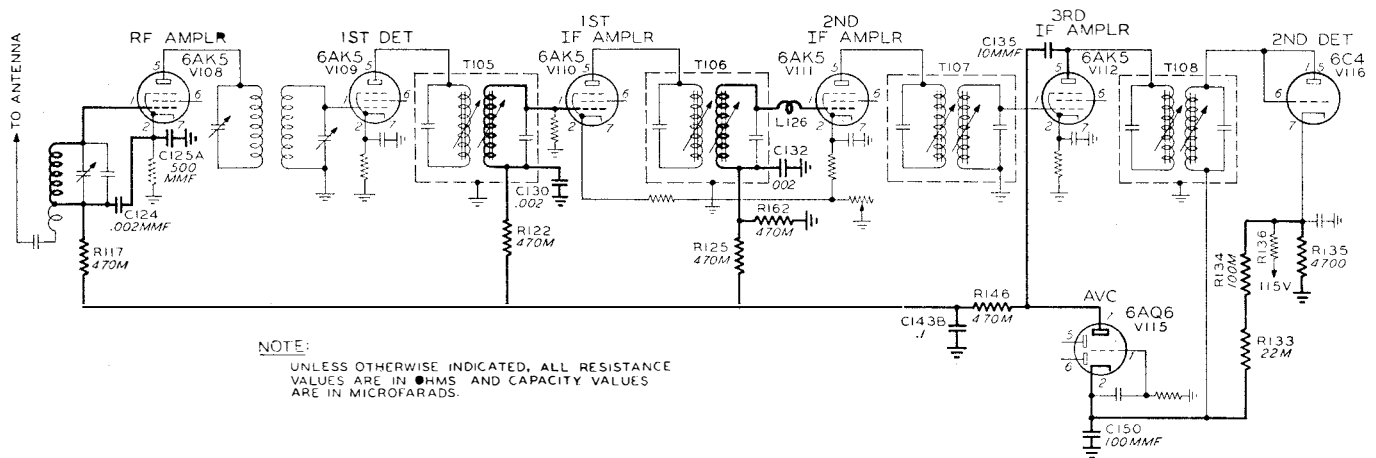

Figure 4-16—AVC Circuit
(6) AVC CIRCUIT. (Refer to figure 4-16.)—The automatic volume control circuit employs the triode section of a Type 6AQ6 diode-triode tube, V115. A cathode delaying bias prevents the operation of the tube, thus permitting the maximum sensitivity of the RF and IF stages when weak signals are being received. Voltage for the operation of the AVC control circuit is obtained from the primary coil of the output IF transformer. The advantages of coupling to the primary instead of the secondary are higher audio voltage and less shunting effect on the diode detector load. A positive voltage is supplied to the AVC tube cathode by a resistor divider circuit consisting of R135 and R136. This voltage is supplied through the diode detector load resistors, R133 and R134. The AVC tube grid is held at ground potential by a resistor connected from the grid to the chassis ground. The positive voltage on the AVC tube cathode prevents the tube from functioning until a signal sufficiently strong to overcome this